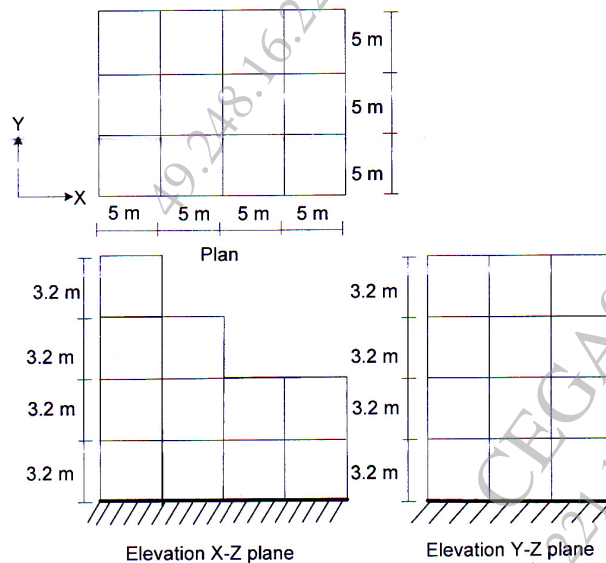

Fig. 3
- Q6) Determine the seismic forces in X and Y direction at each floor level for the residential RCC structure shown in the Fig. 3. The building is located in seismic zone V. The soil conditions are medium stiff. The special moment resisting RC frames are in-filled with brick-masonry. The lumped weight due to dead loads may be taken as 12 kN/m2. The floors are to cater a live load of 4 kN/m2 on floors and 1.5 kN/m2 on the roof. [10]